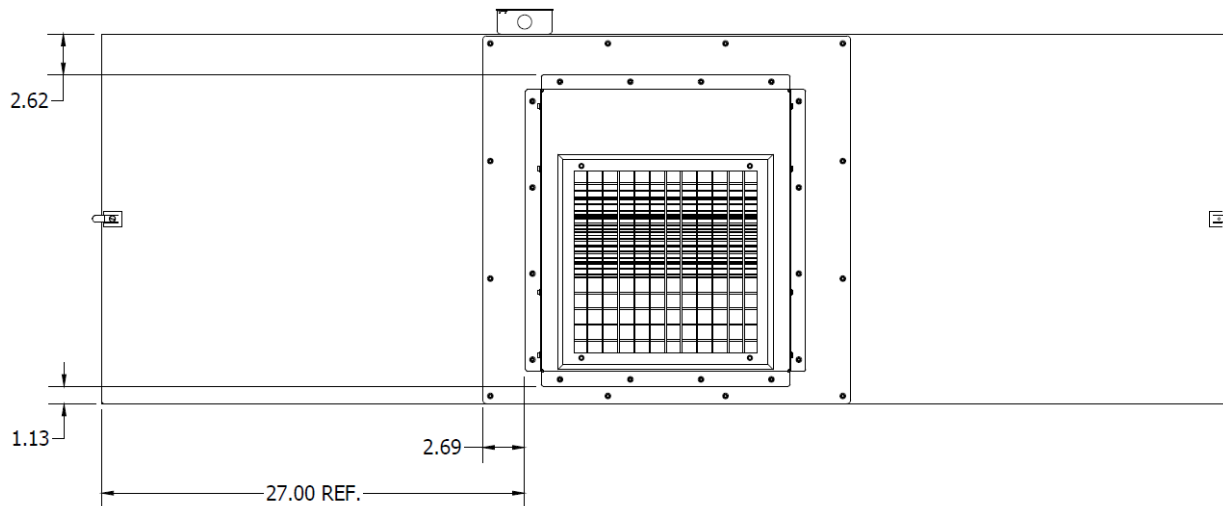

FIG. 8
3. Using supplied self-drilling sheet metal screws, attach silencer. See **FIG. 8** for location of silencer assembly. 16 New holes will have to be drilled on the exhaust panel.